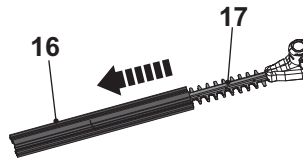

Fig. 3
1. Remove the blade cover (16) from the hedge trimmer blade (17) before operation (Fig. 3).
2. Keep the blade cover (16) safely.